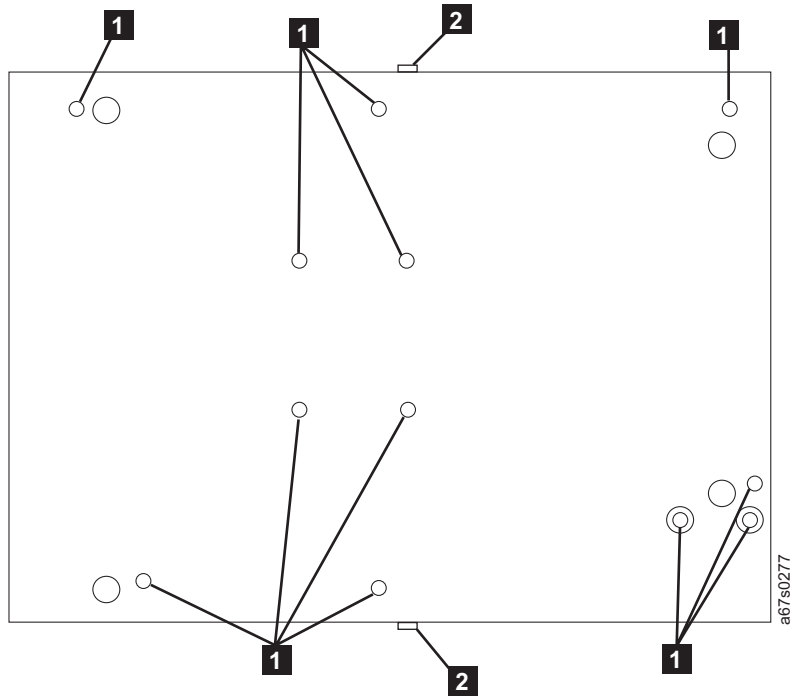

Figure 159. Location of screws on bottom cover for drive removal
- c. Remove the 12 screws from the bottom cover (**1** in Figure 159).
- c. Remove the 12 screws from the bottom cover (refer to **1** in Figure 159 on page 270).